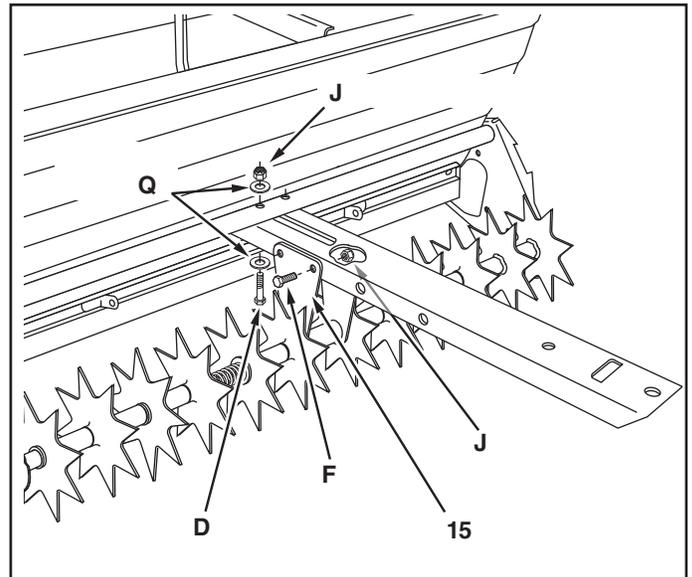

FIGURE 20
27. Attach the tongue to the frame assembly tube using a 1/4" x 1-3/4" hex bolt (D), two 1/4" flat washers (Q) and a 1/4" nylock nut (J). Repeat for the other side. **Do not tighten yet.** See figure 20.
28. Attach the tongue to the center brace (15) using two 1/4" x 5/8" hex bolts (F) and 1/4" nylock nuts (J). Repeat for the other brace. **Do not tighten yet.** See figure 20.